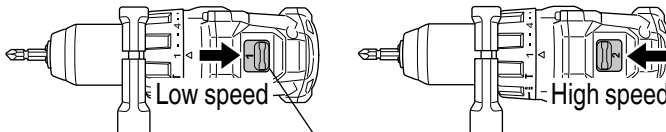

**Fig. 11**
The L-side of the push button is pushed to turn the bit counterclockwise. (See **Fig. 11**) (The (L) and (R) marks are provided on the push button.)